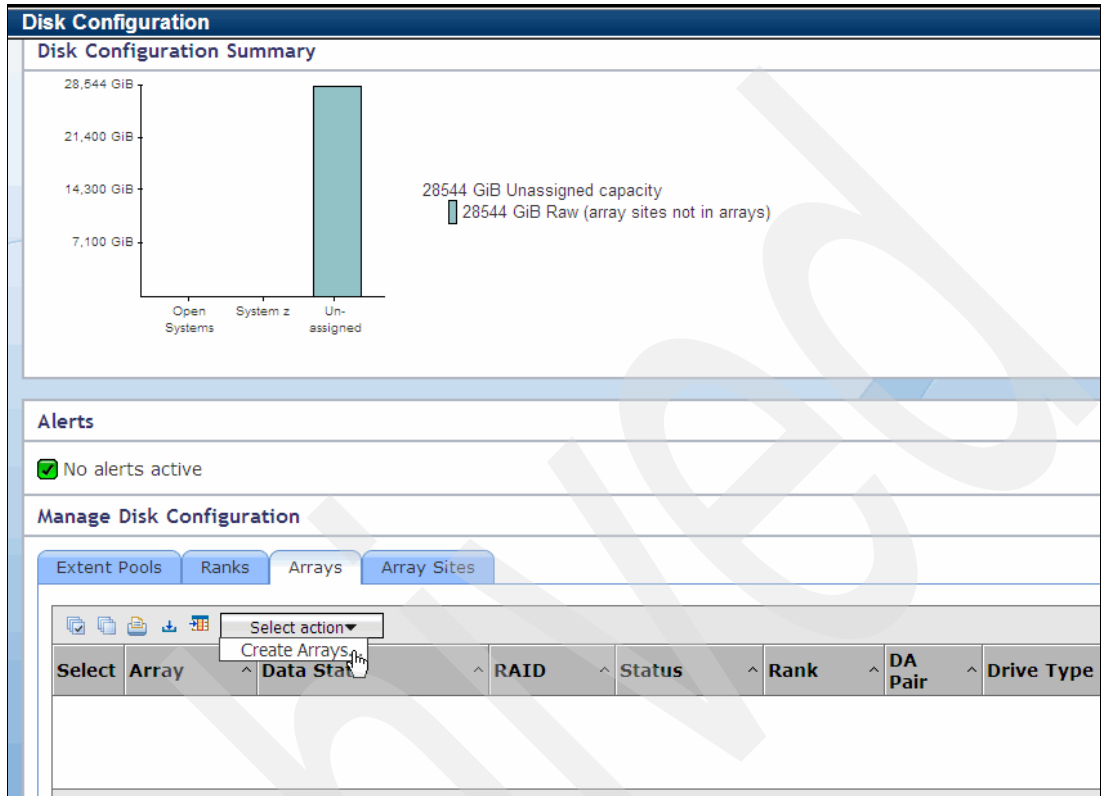

Figure 13-23 Select Create Arrays
- Once we identify the unassigned and available storage, we can create an array. Click the **Array** tab in the Manage Disk Configuration section and select **Create Arrays** in the Select action drop-down menu, as shown in Figure 13-23.